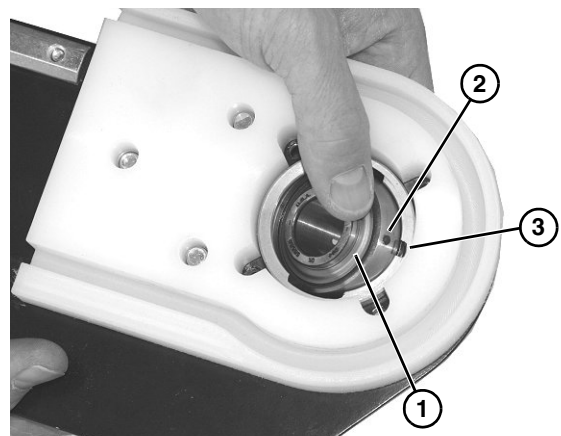

Figure 54
2. Insert bearing (**Figure 54, item 1**) into housing slot: Locate anti-rotation nub (**Figure 54, item 2**) to align with slot (**Figure 54, item 3**), and twist bearing into housing.